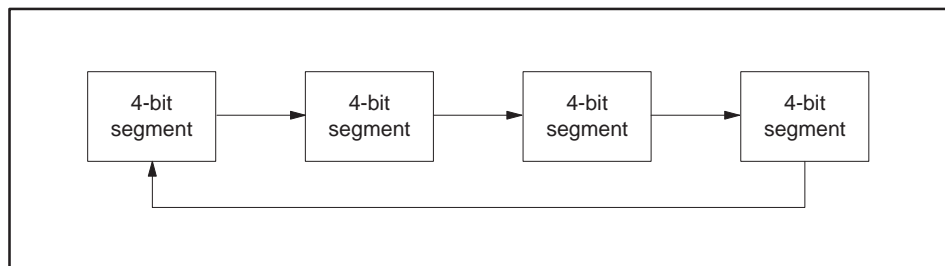

Figure 6-109 WROT Operation
- Each 4-bit segment of the word specified in memory location A shift to the right as shown in Figure 6-109.